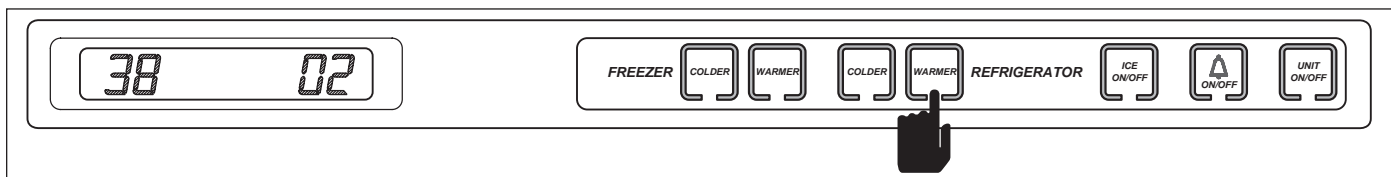
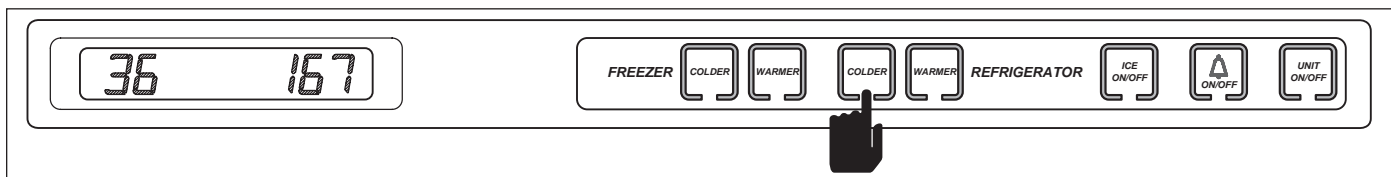

**Figure 3-47. Initiate Temperature Log Recall Mode To View Compartment Temperature History Only - Press and Hold Desired WARMER Key, Then Press UNIT ON/OFF Key**
**Figure 3-48. Thermistor Location Code Flashes Every Three Seconds**
**Initiate Temperature Log Recall Mode To View Compartment Temperature History Only** - Begin with the unit ON. Now, press and hold the desired compartment WARMER key, then press the UNIT ON/OFF key, then release both keys (See Figure 3-47). The left display area on the LCD will show average compartment thermistor temperature and in the right display area will be the index number. The first index number will be “1”, indicating the most recent two-hour temperature average. The right display area will also flash the thermistor location code at 3 second intervals (See Figure 3-48).